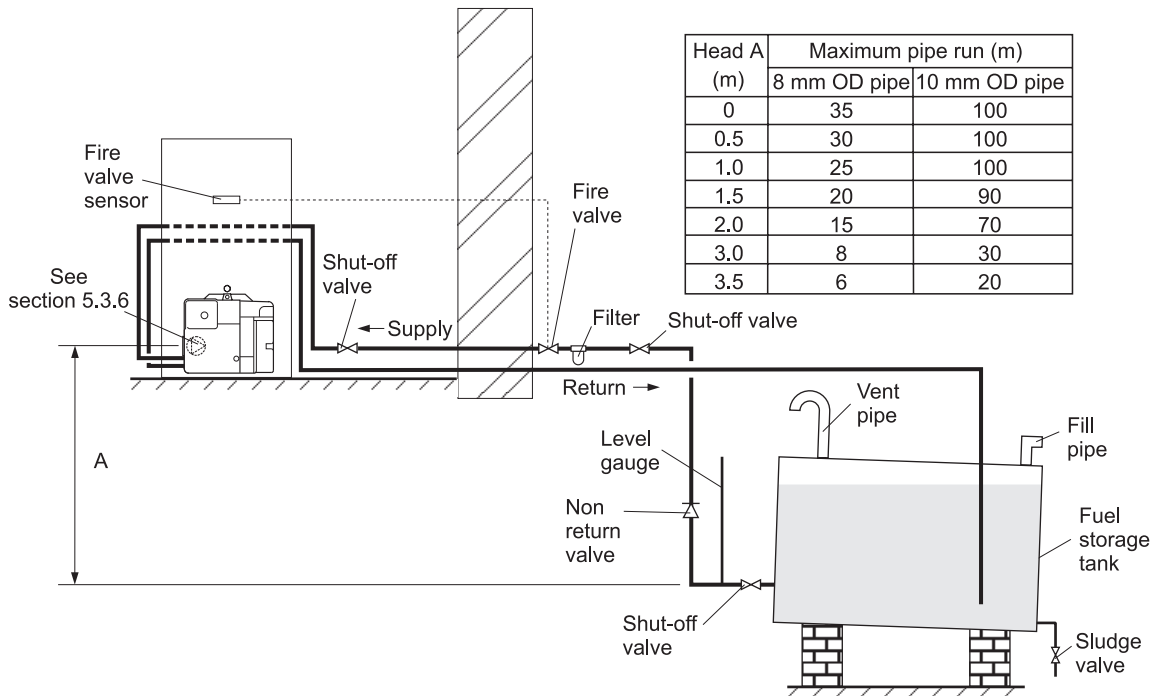

Fig. 6 - Two pipe system
5.3.4 Two pipe system - (See Fig. 6)